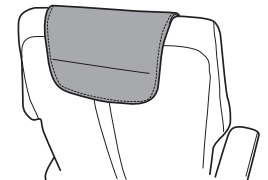

Fig.11
4. Place the neck pillow at the desired height; a magnet holds it in position (Fig.11).